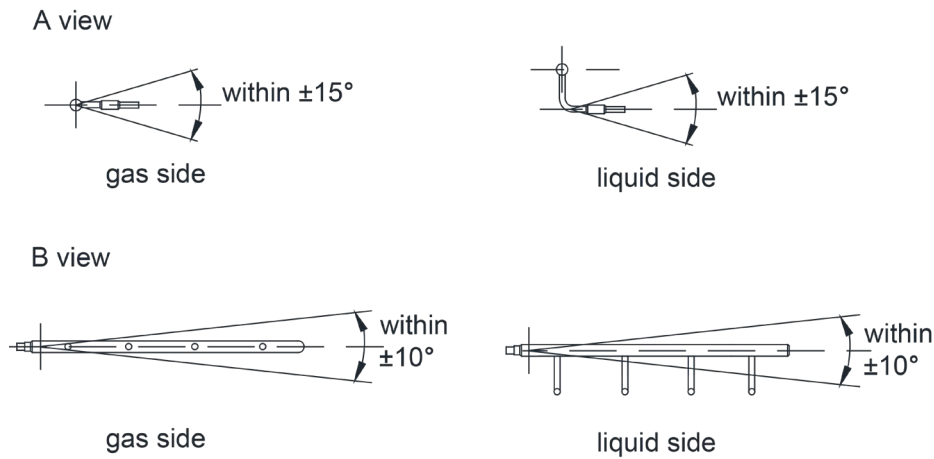

Fig. 3.4.4(b)
- 3) Y-type manifold can be installed vertically or horizontally. Confirm the position and then weld the manifold pipe. See Fig. 3.4.4(a). T-type manifold must be installed horizontally with inclination, see the Fig. 3.4.4(b).